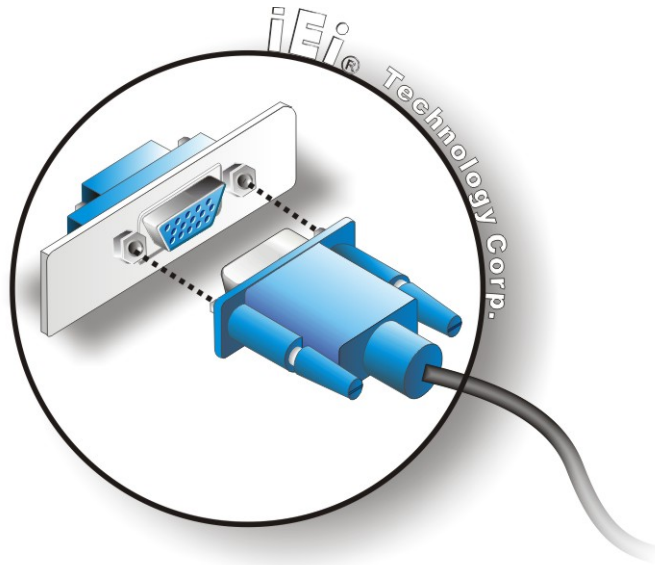

Figure 5-18: VGA Connector
Step 3: Insert the VGA connector. Once the connectors are properly aligned with the insert the male connector from the VGA screen into the female connector on the WSB-945GSE. See Figure 5-18.